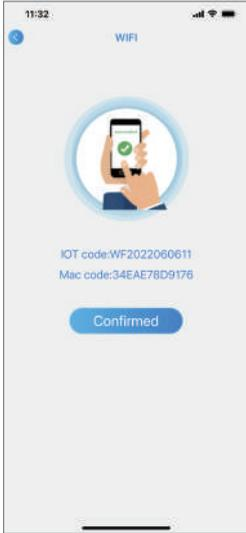

Fig.18 Bond device done interface
8. Click "Confirmed", device bond is done (Fig.18).